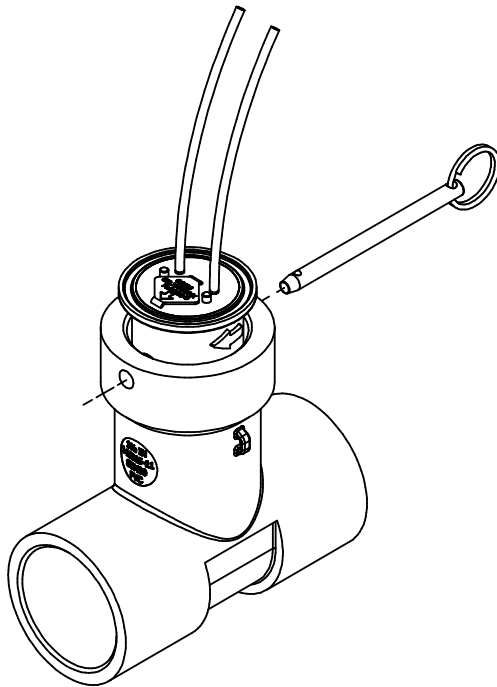

Figure 13
1. Clean all dirt and debris away from the immediate area of the old insert and the top of the meter, then pull out the quick release pin from the meter (see Figure 13).